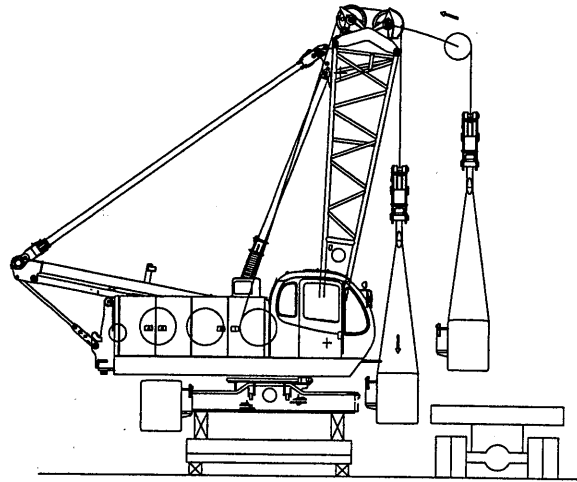

Fig. 11-37
- (10) Slowly swing toward the opposite side. Then, install another crawler in a similar manner. Sudden swing may lead to unstable support of the machine. (Fig. 11-37)